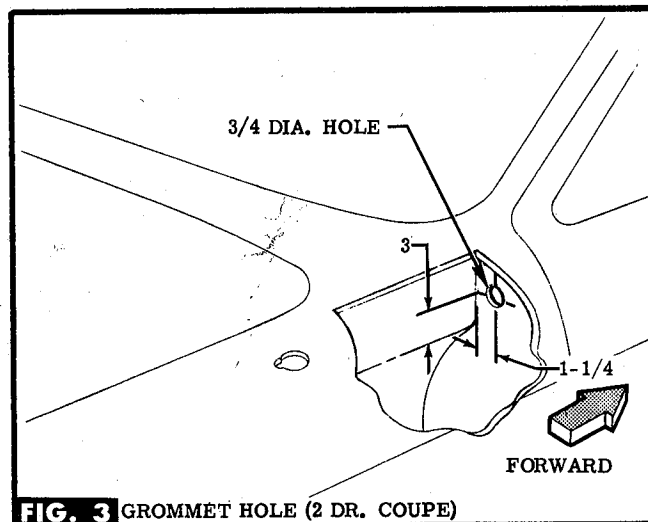

FIG. 3 GROMMET HOLE (2 DR. COUPE)
STEP 3 (2 DR. COUPE) REMOVE R. H. REAR WHEEL, THEN FROM INSIDE OF WHEELHOUSE, LOCATE, CENTERPUNCH & DRILL HOLE THRU UPPER FRONT OF WHEELHOUSE. SEE FIG. 3.